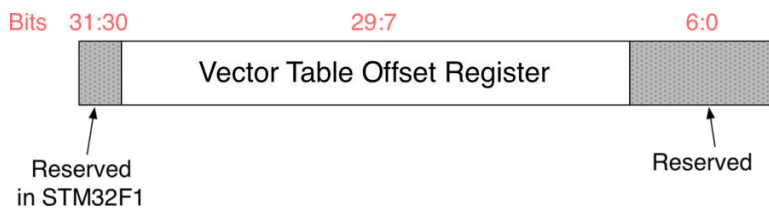

Figure 2: The structure of the VTOR register
- In STM32F1 MCUs, which are based on the Cortex-M3 r1p0 core revision, the bits [31:30] of the VTOR register are reserved (see **Figure 2**) and hence it is possible to relocate the *vector table* only in the code memory (0x0000 0000) and in SRAM (0x2000 0000).